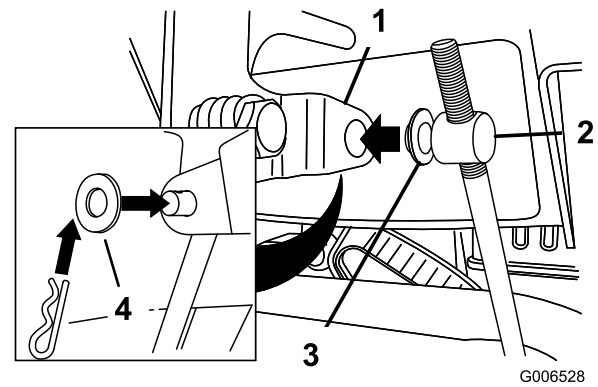

Figure 6
**Note:** To make installation easier, leave the inner washer on the trunnion (Figure 6).
- Lift up on the speed control rod and insert the trunnion into the hole in the speed selector lever (Figure 6).
- Remove the hairpin cotter and the outer washer from the trunnion on the upper end of the speed control rod (Figure 6).
- B. Disconnect the trunnion from the speed selector lever (Figure 6).
- C. Turn the trunnion downward (clockwise) on the speed control rod (Figure 6).
- D. Connect the trunnion from the speed selector lever (Figure 6).
- C. Turn the trunnion upward (counterclockwise) on the speed control rod (Figure 6).